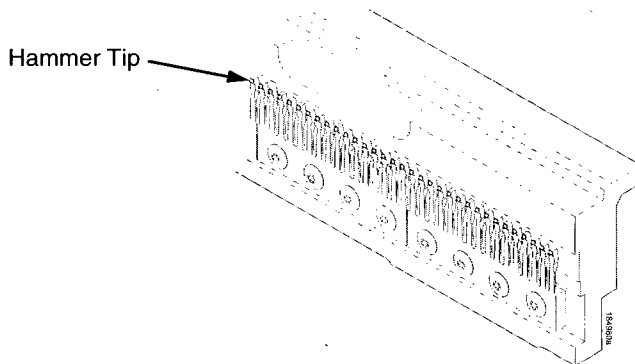

Figure 9. Cleaning the Hammer Tips
17. Place the shuttle so that the base sits flat on the work surface. Use the brush provided to remove as much debris as possible from the hammer tips, brushing in a downward direction (Figure 9.). Rotate the shuttle 90° away from you and repeat the brushing this time working from the center of the shuttle outward towards both ends.